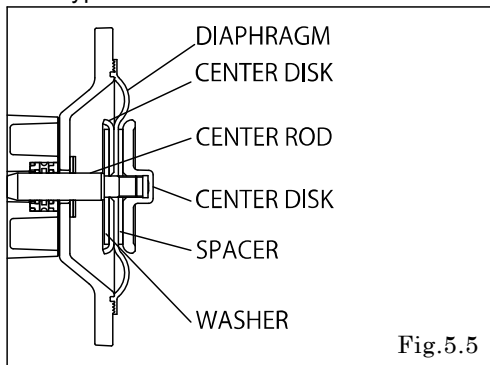

Fig.5.5
- For the model with NBR diaphragm, put the spacer into outside of the diaphragms. (cf. Fig.5.5).
- Pull out the diaphragm to one side and assemble the out chamber with Fig. 5.5, 5.6, 5.7 condition. Bolts should not be fully tightened at this point.
- Pull out the diaphragms to the other side and assemble the out chamber with Fig. 5.5, 5.6, 5.7 condition. Bolts should not be fully tightened at this point.